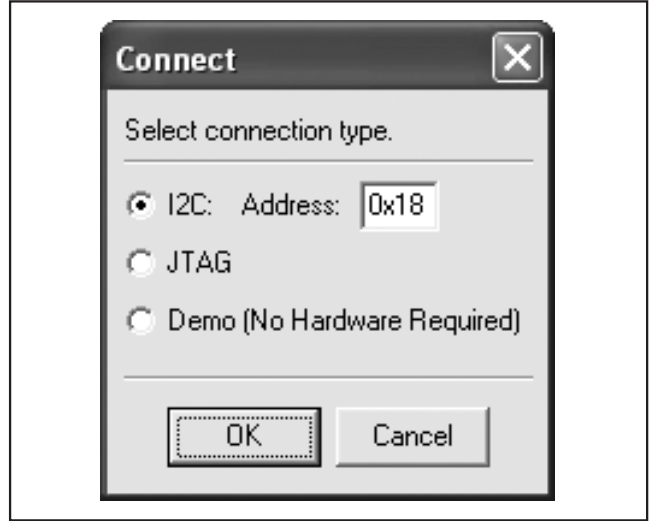

Figure 1. Connect Dialog
Make sure the EV kit is connected to the PC by the USB cable. Launch the software and in the **Connect** dialog (Figure 1), select the **I2C** or **JTAG** radio button and click **OK**. If the software is being used without the EV kit connected, select the **Demo (No Hardware Required)** radio button.
**Connect...** directs the software to open a connection with a connected EV kit and brings up the **Connect** dialog (Figure 1) to select the connection type. Once connected, this menu item changes to **Disconnect**.